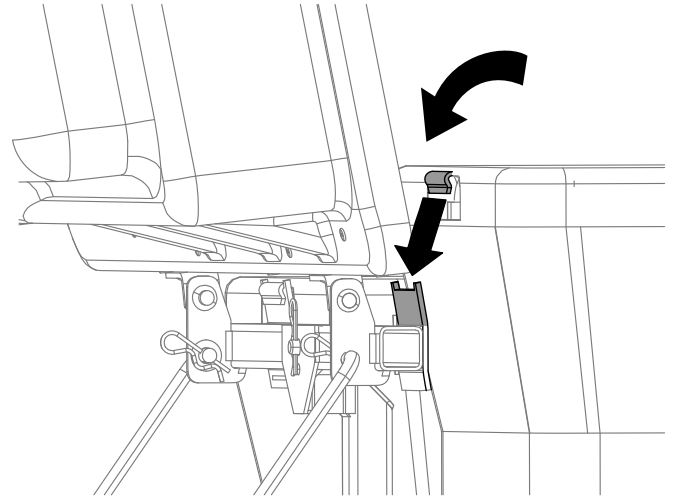

Figure 21
4. Lift the bagger top and install the bags assembled in 9 Assembling the Grass Bags \(page 15\) by sliding the bag frame hooks onto the retaining brackets (Figure 21).